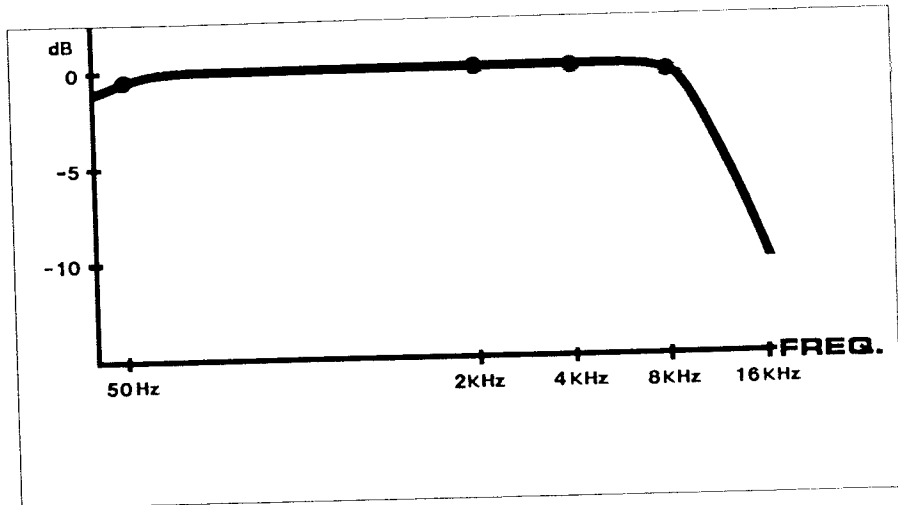

Figure 10. Checking High Frequency Response on a Real Time Analyzer With a Focus, "P Tone" or Pink Noise Source: (Measured at Preamp TP-L)
**(H)** Connect a REAL TIME ANALYZER to the test jack "TP L" on the PREAMP. Run a FOCUS or PINK NOISE film and adjust the focus of the soundhead optics for the best high frequency response on the analyzer (*Figure 10*). At the same time, adjust the azimuth for the